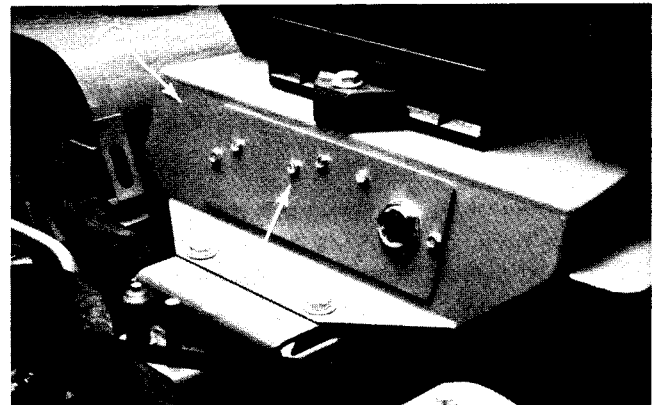

Figure 54
5. Remove the two capscrews securing the electrical plate (Fig. 54). Push the electrical plate through the opening in the tank base (keep components and wires attached).
6. Remove the two capscrews securing the front of the tank base to the frame (Fig. 54).